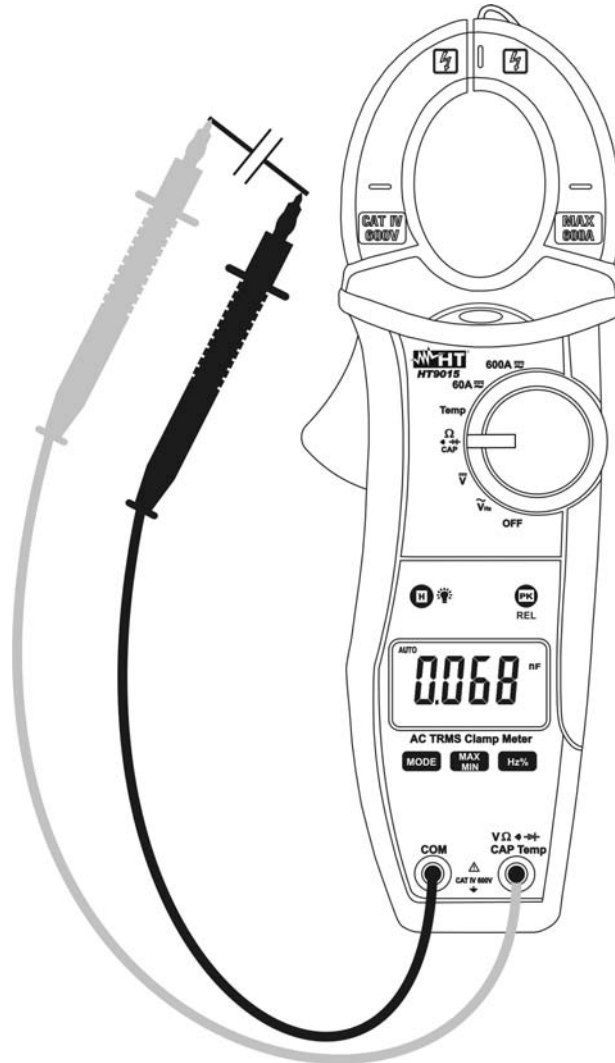

Fig. 7: Taking Capacitance measurement
3. Insert the red test lead plug into  $V \Omega \cdot \text{Hz} \cdot \text{Temp}$   $\rightarrow$  **CAP Hz % Temp** jack and the black test lead plug into **COM** jack (Fig. 7)